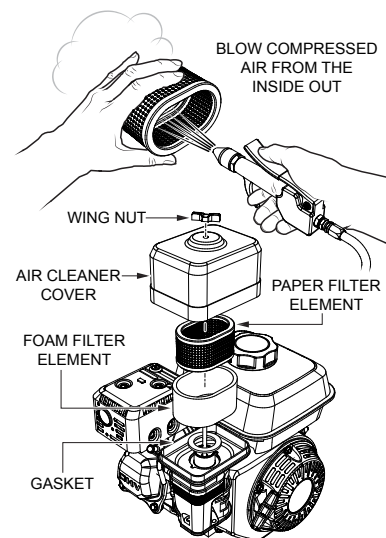

Figure 28. Engine Air Cleaner
- Remove the air cleaner cover and foam filter element as shown in Figure 28.
- Tap the paper filter element (Figure 28) several times on a hard surface to remove dirt, or blow compressed air [not exceeding 30 psi (207 kPa, 2.1 kgf/cm2)] through the filter element from the air cleaner case side. **NEVER** brush off dirt. Brushing will force dirt into the fibers. Replace the paper filter element if it is excessively dirty.